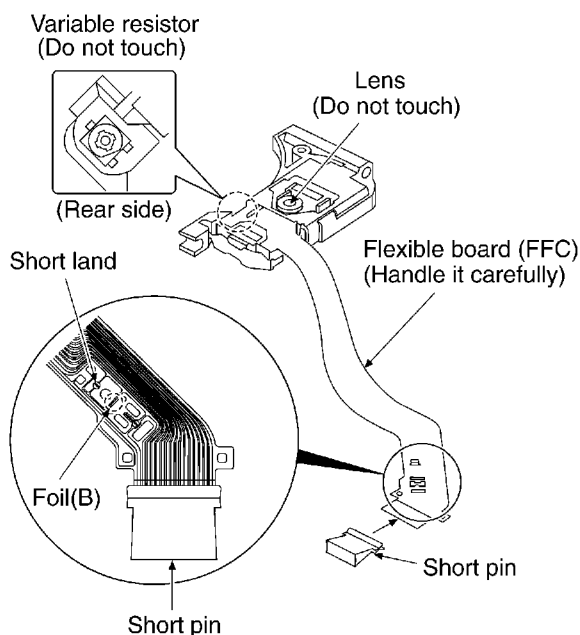

Fig. 4-1.
2. To protect the laser diode against electrostatic breakdown, be sure that the short land of the flexible board (FFC board) should be short-circuit by solder before inserting a short pin or similar object into the tip of the flexible board. (Refer to Fig. 4-1.)
4. Do not turn the variable resistor (laser power adjustment). It has already been adjusted. (Refer to Fig. 4-1.)
The traverse deck short-circuits the foil (B) to protect the laser diode against electrostatic breakdown. Be sure to cut the foil (B) before making connection. Take care not to make contact with cutting point each other. (Refer to Fig. 4-1.)